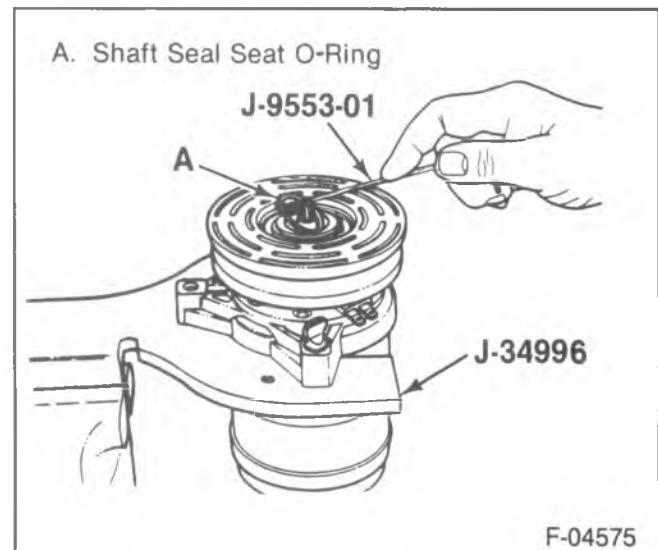

Figure 24—Removing the Shaft Seal Seat O-Ring
4. O-ring seal using J-9553-01 (figure 24).